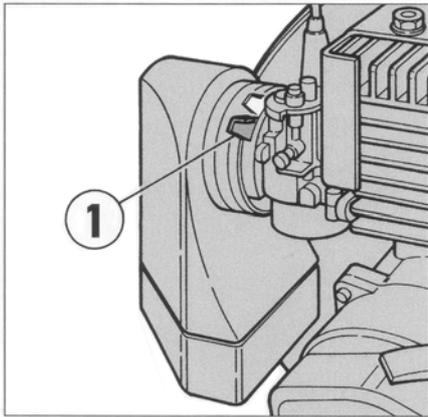

FIG. 5
- 3) Shift the choke lever (1 - Fig. 5) to closed position "C".
- 8) Turn the throttle to maximum so that the choke lever clicks (1 - Fig. 5) into open position "A", then lower the number of revs to normal running speed.